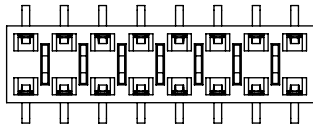

FIGURE 3
-BE: BOTTOM ENTRY (USE RHLE-50-DBE) (SEE FIG. 3) (AVAILABLE ON -PE STYLE ONLY)